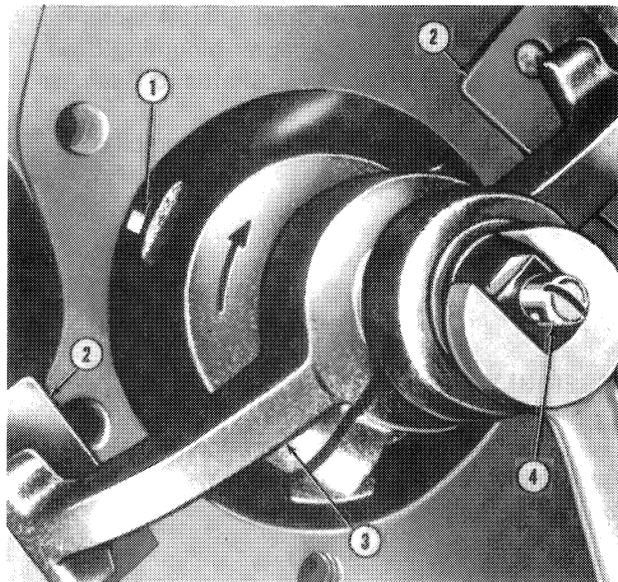

Figure 39
1. If necessary, remove any ridge from the top of the cylinder bores with a cylinder ridge reamer or hand scraper, Figure 39. Do not cut down into the piston ring travel area.